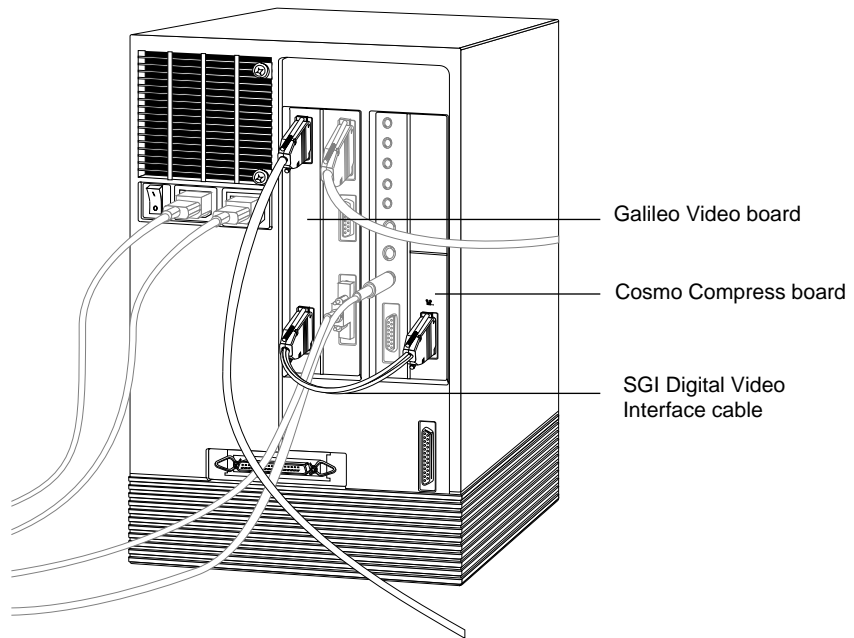

Figure 14 Connecting the SGI Digital Video Interface Cable
- Connect one end of the SGI Digital Video Interface cable to the connector on the rear of the Cosmo Compress board you just installed, as shown in Figure 14. You can connect either end of the cable.